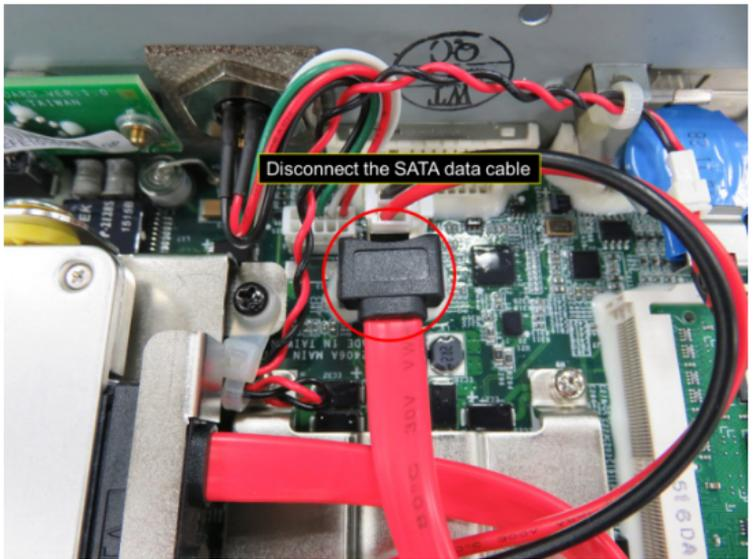

Figure 18
- 4.2.2.1 Disconnect the SATA data cable from the main board as shown in Figure 18.